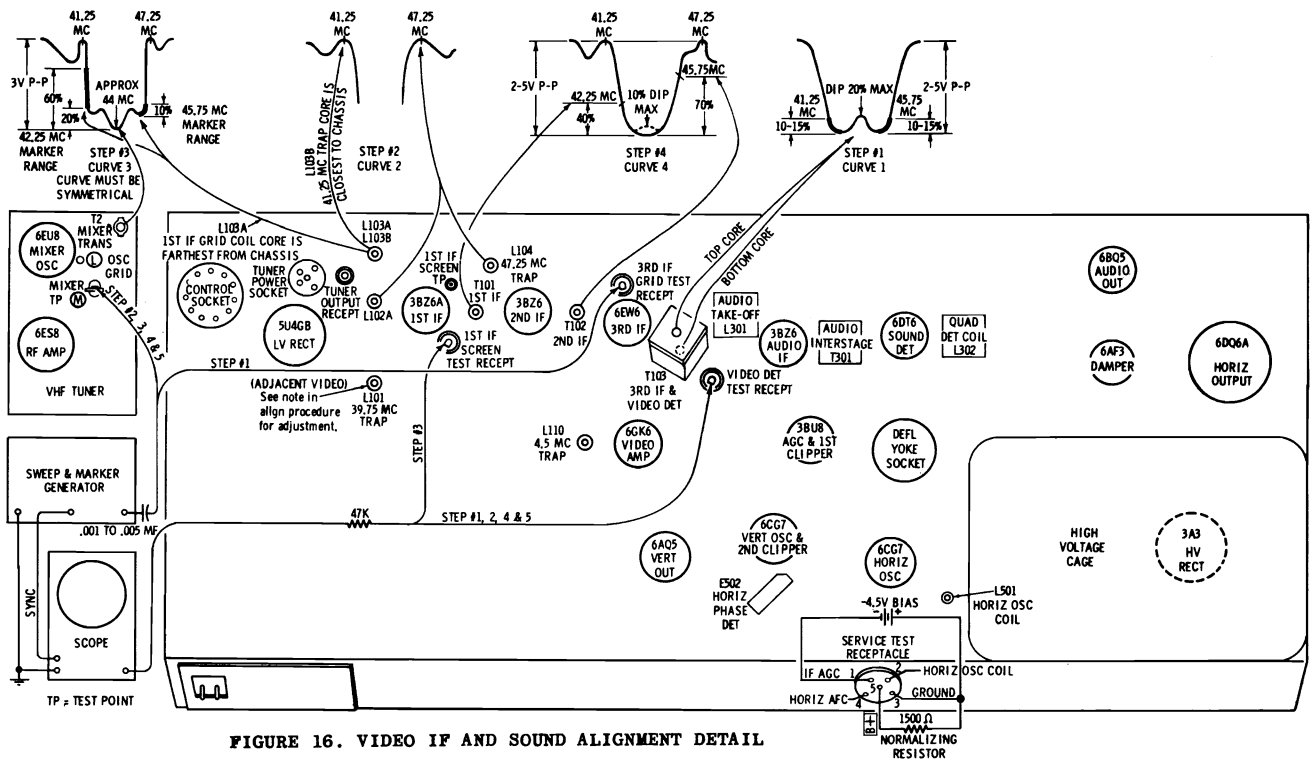

FIGURE 16. VIDEO IF AND SOUND ALIGNMENT DETAIL
3. Disable oscillator by shorting point $\text{\textcircled{L}}$ located near mixer-oscillator tube V-2, to chassis. See Figure 16.
10. Refer to Video IF & Sound Alignment Detail for component and test point locations (Figure 16).
3. Refer to Video IF & Mixer Alignment Detail for coil and test point locations (Figure 16).